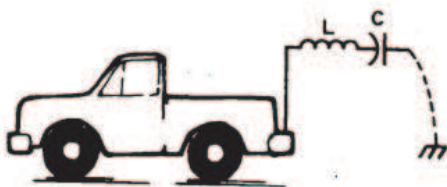

Fig. 2. Resonator positioned at 90° (vertical polarization retained).
i.e., the LC circuit is at the top of the antenna and, for all practical purposes, the only part of the antenna that radiates is that portion below the resonator. That is the reason you should make the mast as long as is practical. Since the whip is basically C, why stick it up in the air where it will just give your antenna increased ability to reach all those nearby objects—trees, carports, etc.? You can actually place a typical resonator at a 90 degree angle to the mast and probably notice no difference in performance, although tuning may change slightly. This could present an eye hazard or you might even spear a bird. Let us look at this change as shown in Fig. 2.